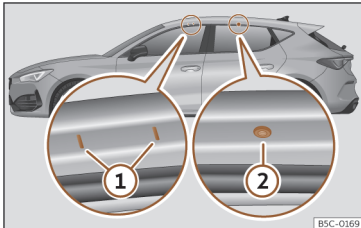

Fig. 138 Mounting points for the roof bars for the roof rack (Leon).
The front and rear attachment points ① and ② are only visible when the doors are open >>> **Fig. 138**.